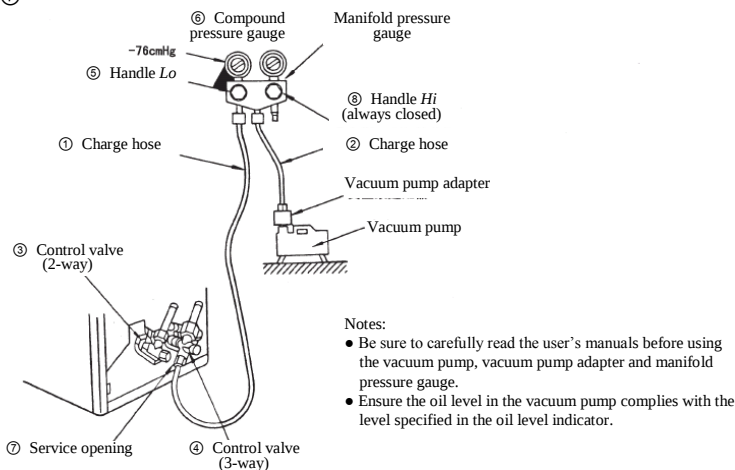

Figure 6 Evacuation structure of vacuum pump
(1) Use the vacuum pump to suction air and detect any gas leakage (see Figure 6)
a) Connect the charge hose to the outdoor unit. ①
b) Connect the charge hose to the vacuum pump adapter. ②